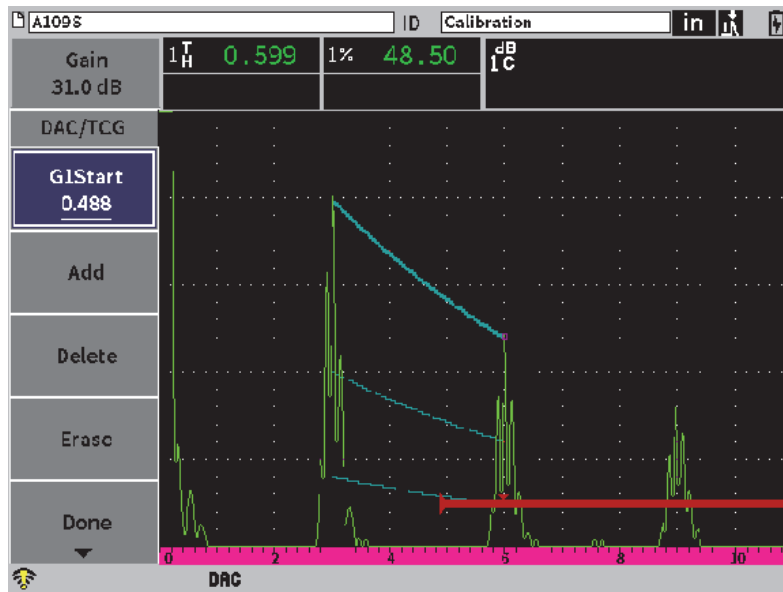

Figure 11-5 Second DAC point
5. Press the Tab key to highlight the **Add** button, and then press the Enter key to add the second point (see Figure 11-5 on page 179).
8. Press the Tab key to highlight the **Add** button, and then press the Enter key to add another point (see Figure 11-5 on page 179).